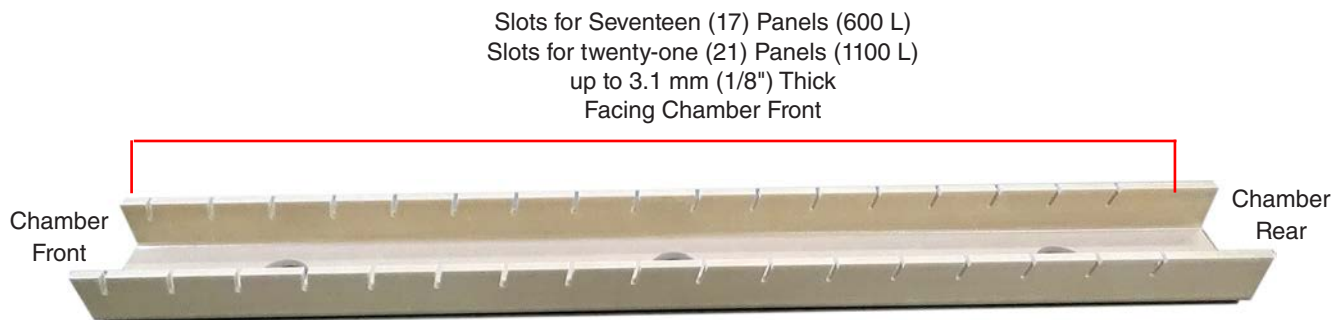

Figure 10.2.1a: Panel Rack for “S” model testers.
- Panel racks for “S” model 600 L and 1100 L testers have mounting slots facing the front of the chamber, angled at either 6° or 15° from vertical (Figure 10.2.1a through Figure 10.2.1c). See Section 16 for these panel rack part numbers.